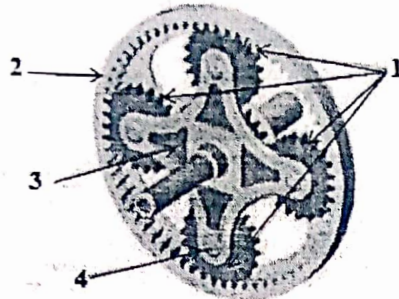

Figure 6
- The figure 6 below is that of a planet gear set.